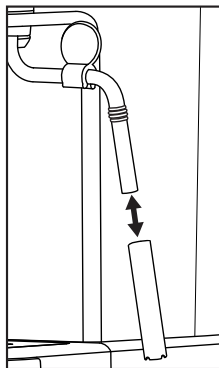

Figure 3
- 5) Pull the casing of the milk frother 10 off (Figure 3) and clean it thoroughly in warm water.
- 7) Push the casing back onto the milk frother 10 (Figure 3).